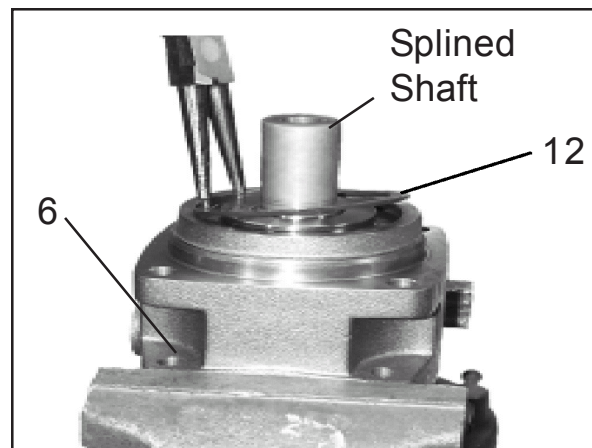
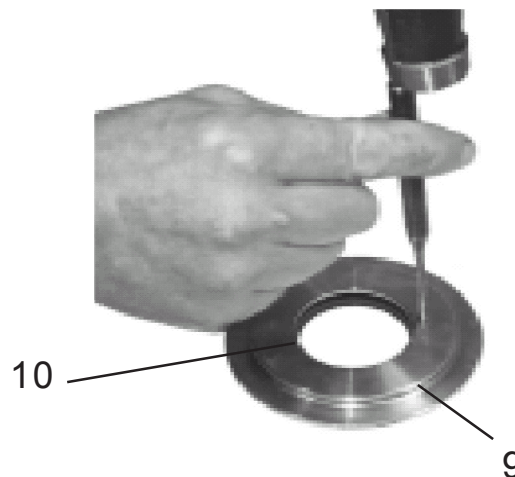
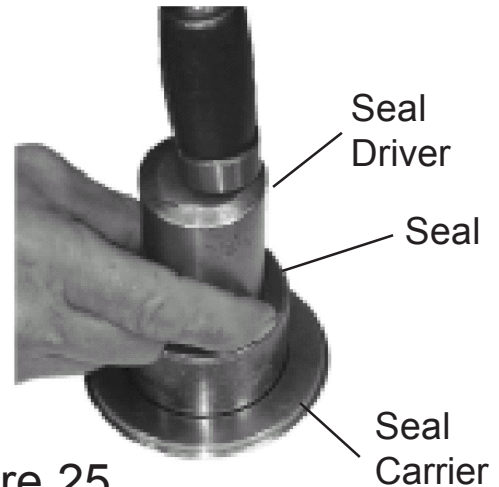

Figure 8
Figure 24
Figure 25
7. Remove Retaining Snap Ring. Remove the Bearing Housing Assembly from vise and turn it over so the shaft end is pointing upward and re-clamp it into vise as shown in figure 8. Using internal Snap Ring pliers to remove the snap ring that retains the seal carrier (item 9). Note: Smooth Shaft shown, actual shaft is splined in this motor.
8. Install Seal into Seal Carrier. Drive the old Seal out of Seal Carrier (See Figure 24) Install new seal (item 10) using a seal driver. Coat the ID of seal with a light coat of oil. (See Figure 25)
20 If only replacing Seal as a repair See Figure 8 & 9 in disassembly section and Figures 24, 25, 26 & 27 in the assembly section.